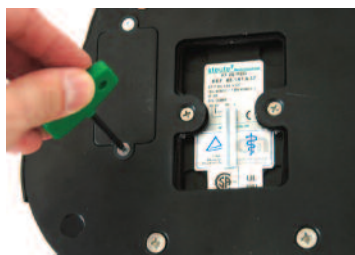

Fig. 3.1.1c
4. Insert the hexdriver into the screw holding down the battery cover. Rotate the hexdriver counter-clockwise until the screw comes out completely, Fig. 3.1.1c.